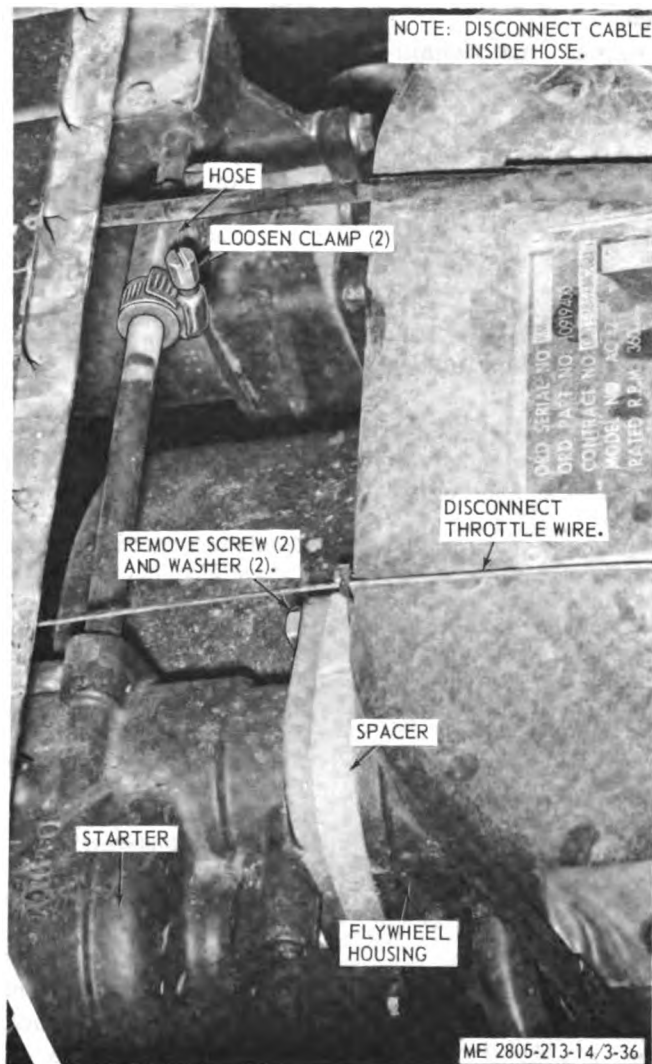

Figure 3-36. Recoil starter, removal and installation.
a. Removal. Refer to figure 3-36 and remove the recoil starter.
(1) Clean the starter exterior surfaces with an approved cleaning solvent and dry thoroughly.
(2) Inspect the recoil starter for cracks, breaks, and other damage.
(3) Replace a defective recoil starter.
c. Installation. Refer to figure 3-36 and install the recoil starter.